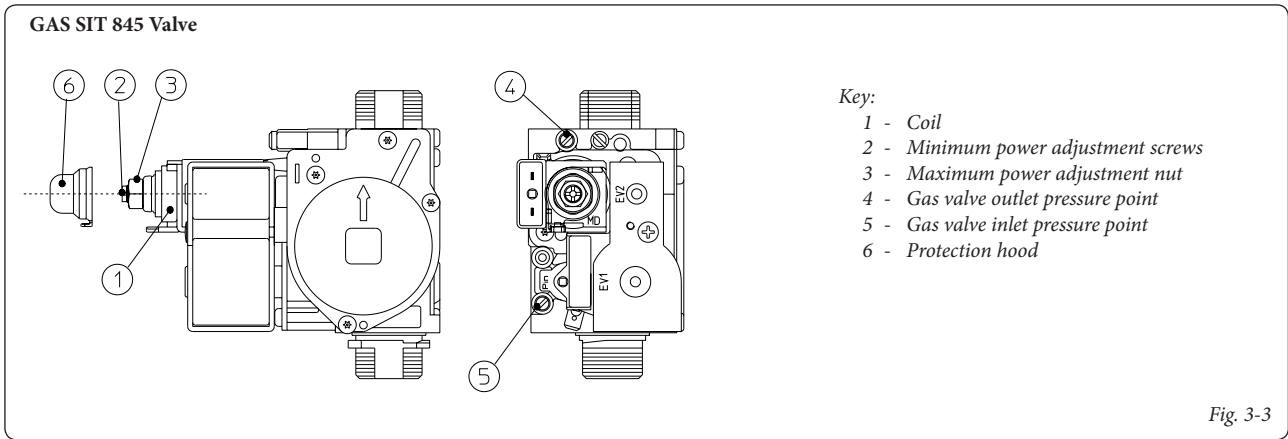

Fig. 3-3
**N.B.:** all boiler adjustment operations must be carried out by a qualified technician (e.g. Immergas After-Sales Technical Assistance). Burner adjustment must be carried out using a differential "U" or digital type manometer connected to the gas valve outlet pressure point (part. 4 Fig. 3-3), keeping to the pressure value given in the table (Par. 3.18) according to the type of gas for which the boiler is prepared.
- Adjust the boiler nominal power on the brass nut (3 Fig. 3.3), keeping to the maximum pressure values stated in the tables (Par. 3.18) according to the type of gas; by turning clockwise the heat potential increases, anti-clockwise it decreases.